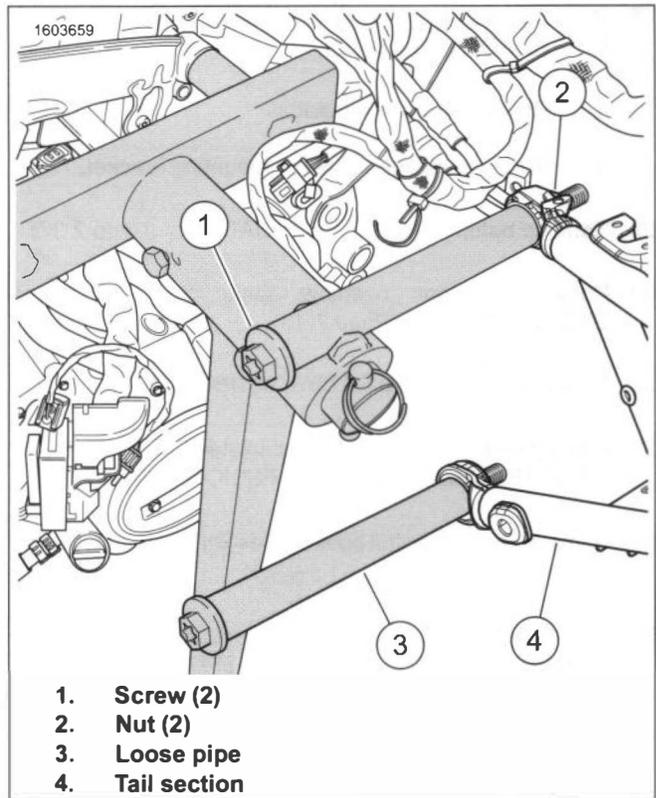

Figure 4-83. Tail Section on Fixture
- c. See Figure 4-83. Support tail section on top of Powertrain R&R Fixture.